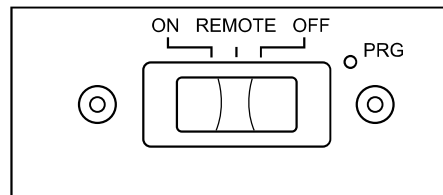

Figure 39 - Remote Selector Switch in ON Position
10. Wait one minute and switch selector switch to the ON position to light burners (see **Figure 39**). When using in the ON position (without remote) burners will light on high. There is no adjustment to the flames without using remote.